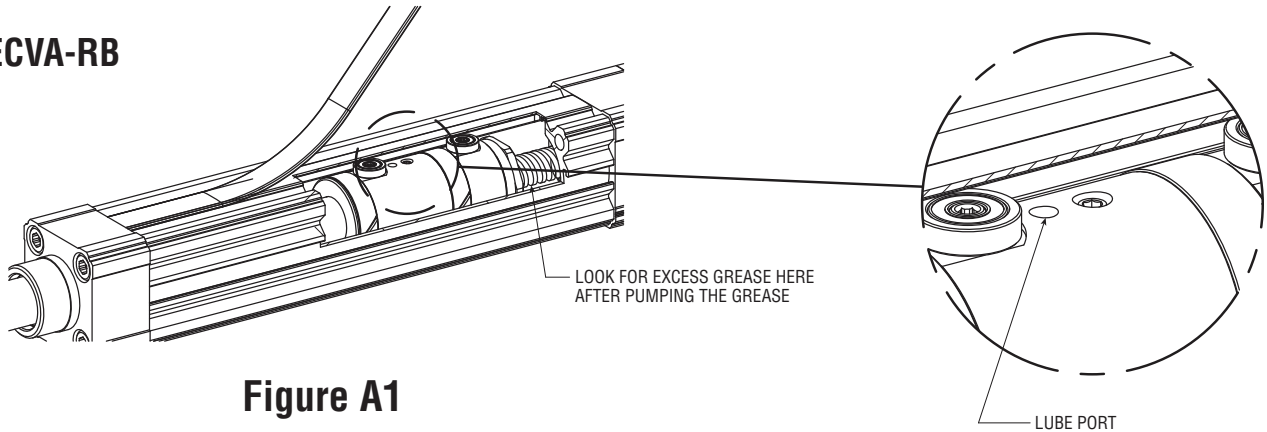

Figure A1
1. Remove the SLOT COVER or LUBE PLUG from the cylinder (Figure A1).
1. Remove the SLOT COVER or the LUBE PLUG from the cylinder (Figure A1).
- NON-ROTATING (ECVA) UNITS: Fully retract the cylinder and remove the CAP END FHCS in the anti-rotation key. (FIGURE A1)